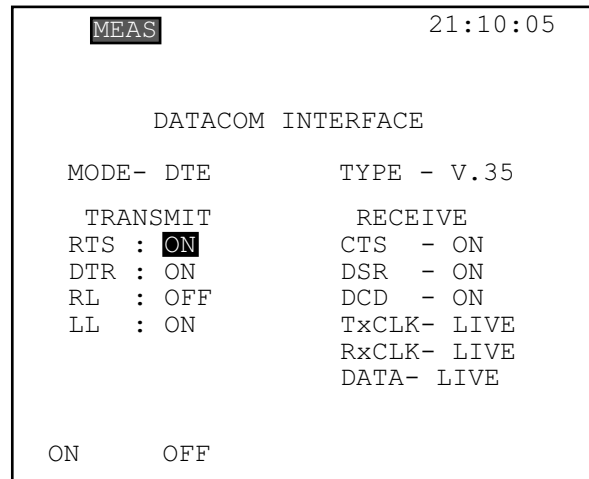

Figure 189 Datacom Interface Screen
6. Select DATACOM INTERFACE and refer to Figure 189.